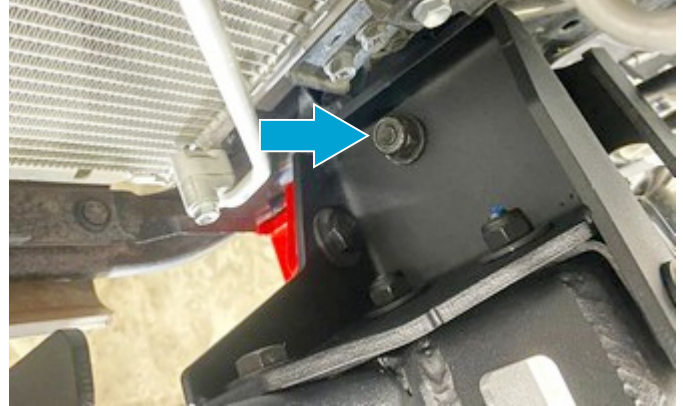

Fig.56
50. Tighten all hardware as shown in Fig. 56.